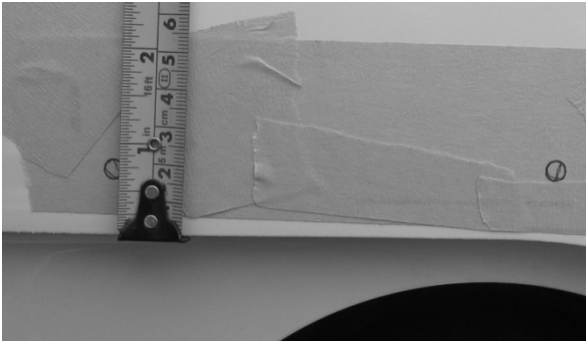

FIG 1
2. Using a pen or pencil, measure and mark the 2 horizontal mounting holes along the same horizontal centerline $\frac{3}{4}$ " from the edge of the hood above the intake boot (Figure 1) and at $3\frac{1}{8}$ " and $7\frac{3}{4}$ " from the rear edge of the hood (Figure 2).